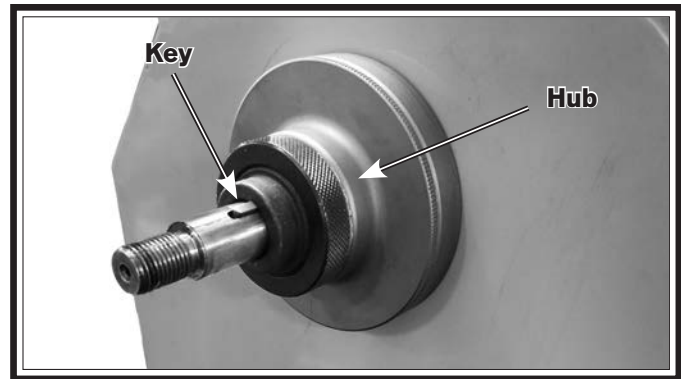

Figure 55. Y-axis hub assembly.
5. Without losing shaft key (see **Figure 55**), slide hub off shaft.